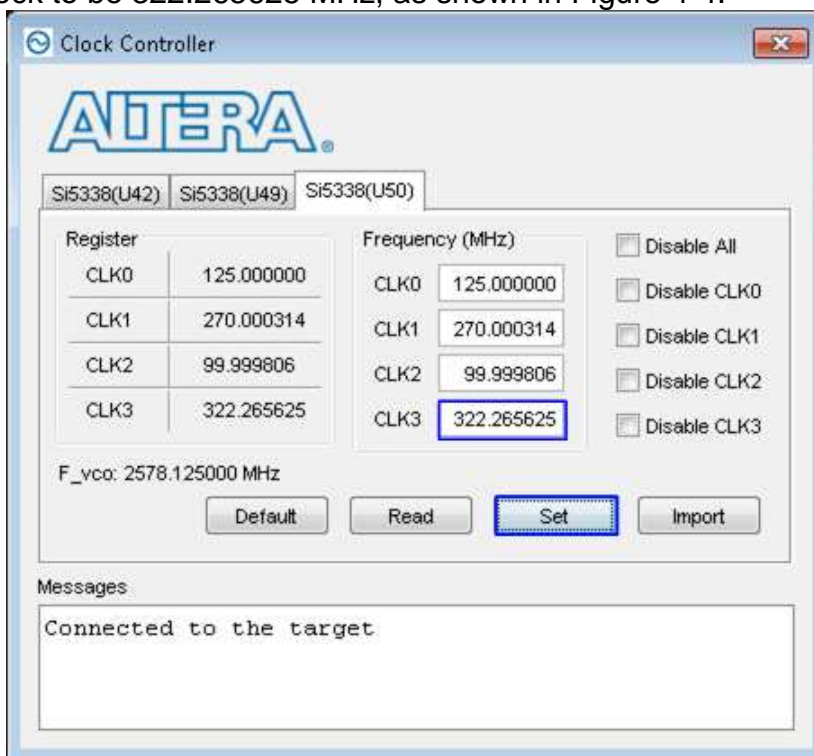

Figure 4-4 Reference clock programming
- Open “Clock Controller” application which is provided in Arria10 SoC release package. Select Si5338(U50) tab, and set CLK3 value to be “322.265625”. Click “Set” button to program clock to be 322.265625 MHz, as shown in Figure 4-4.